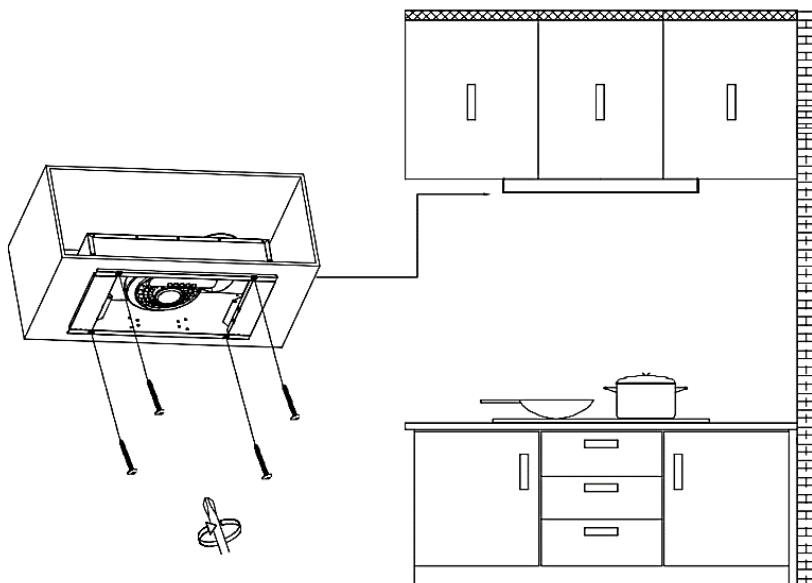

Fig. 7
- Put the cooker hood into the 8 holes of the cabinet. Use eight 4*20 mm screws to lock into the corresponding position of the pencil marked in the cabinet to fix the cook hood. (see Fig. 7)